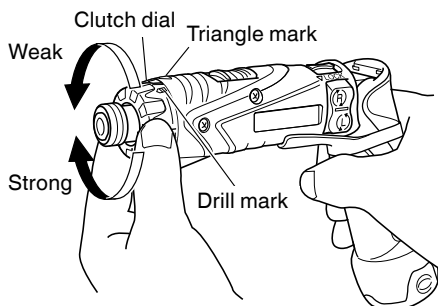

Fig. 8
6. Confirm the clutch dial position (see Fig. 8).
#### (2) Tightening torque indication (See Fig. 8)
#### (3) Adjusting the tightening torque (See Fig. 8)